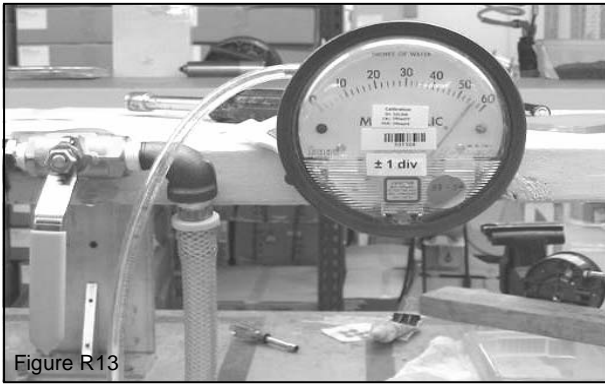

Figure R13
3. Apply compressed air, wait for air to exit the hose barb in the test port, and then connect the Magnahelic gauge (Figure R13) to the hose barb using the vacuum hose or vinyl tubing. This prevents the gauge from reading maximum pressure due to the large velocity of compressed air entering the primary chamber.